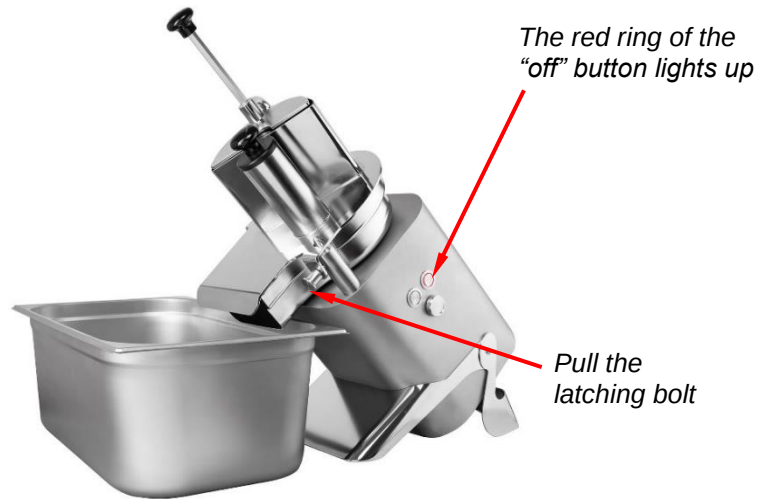

Fig. 18: The “off” button lights up
2. Release the lid latch by pulling the latching bolt (see Fig. 18).